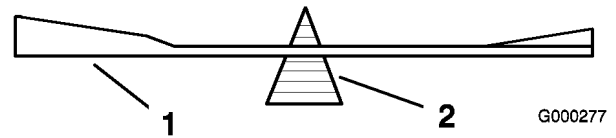
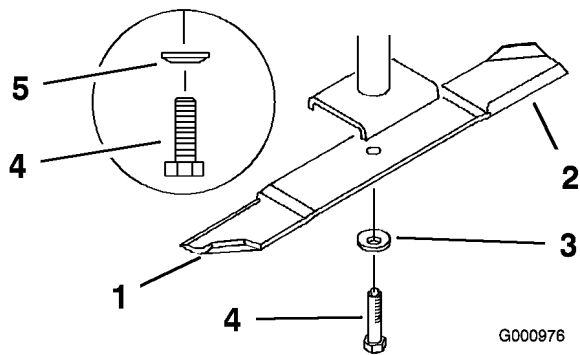

Figure 79
Figure 80
2. Remove the blade bolt, spring disk and blade from the spindle shaft (Figure 80).
2. Check the balance of the blade by putting it on a blade balancer (Figure 79). If the blade stays in a horizontal position, the blade is balanced and can be used. If the blade is not balanced, file some metal off the end of the sail area only (Figure 80). Repeat this procedure until the blade is balanced.
1. Install the blade onto the spindle shaft (Figure 80).
2. Install the spring disk and blade bolt. The spring disk cone must be installed toward the bolt head (Figure 80). Torque the blade bolt to 85-110 ft-lb (115-150 N•m).